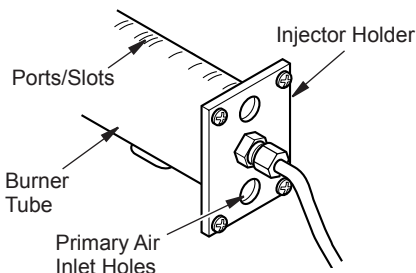

Figure 41 - Injector Holder On Outlet Burner Tube
2. Inspect burner, pilot and primary air inlet holes on injector holder for dust and dirt (see Figure 41).